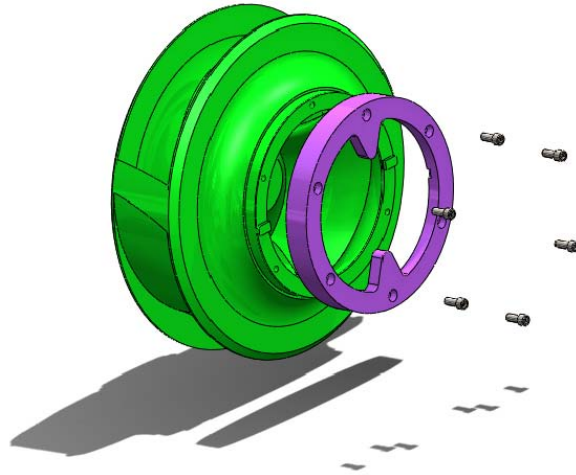
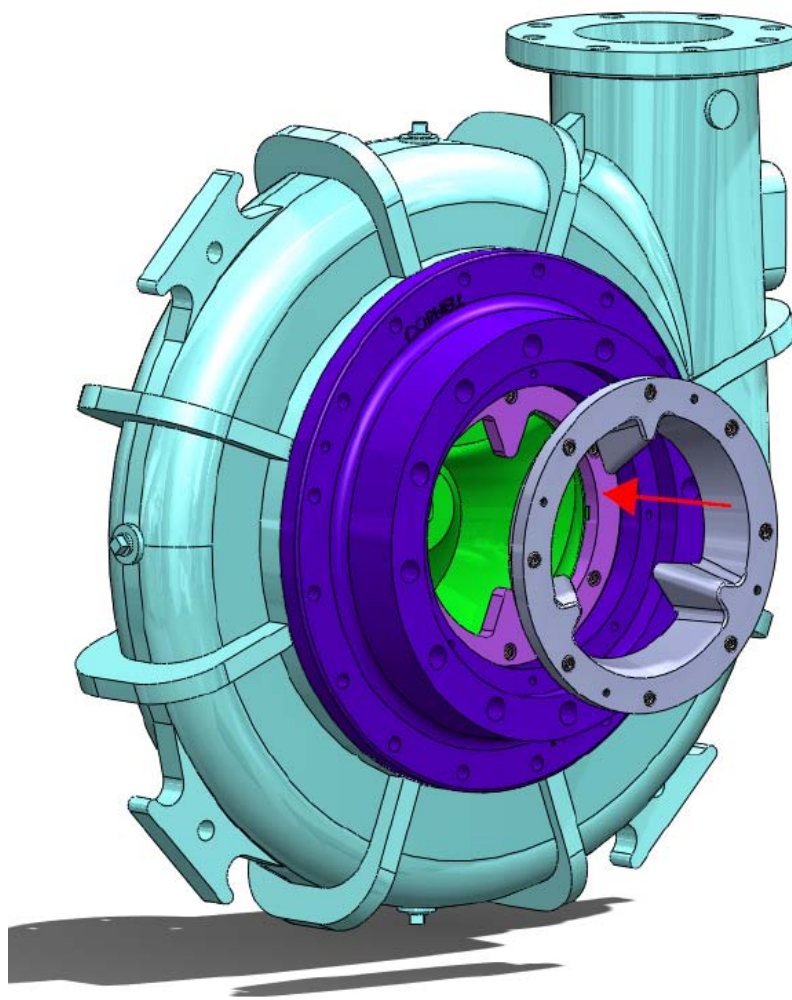
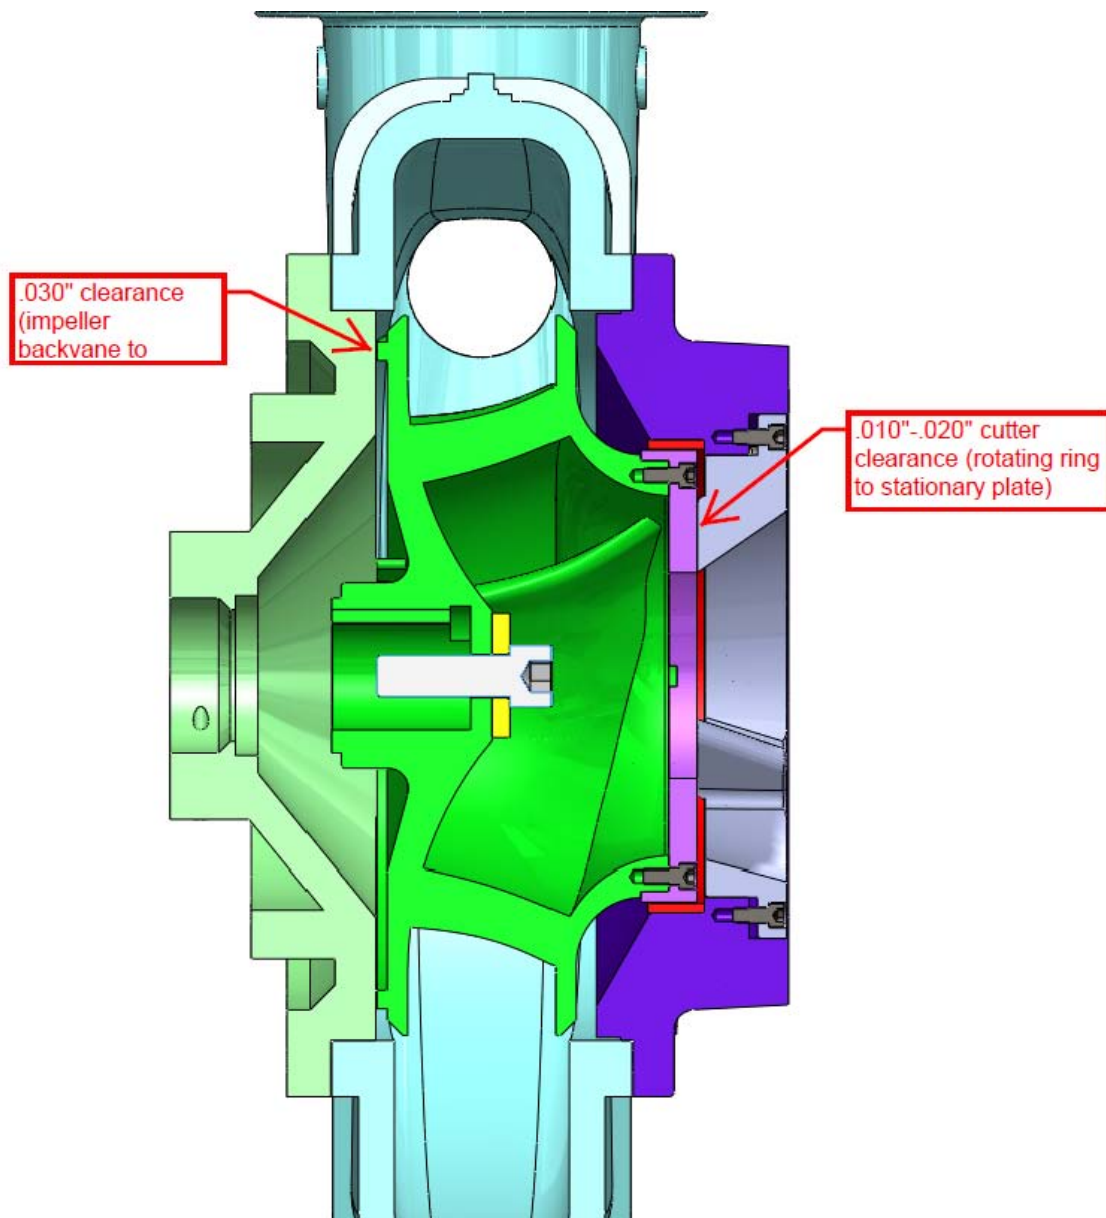

Figure 5. Register and Bolt Rotating Cutter Ring to Impeller
Figure 7. Registering Stationary Cutter Plate to Pump Assembly
Figure 8. Backvane and Cutter Clearances
Register Rotating Cutter Ring on Impeller *Figure 5*. Use keyways as a guide. Bolt together using cap screws as shown in *Figure 5*. Double-check backvane clearances on assembly. (Backvane to backplate clearance should be approximately .030" *Figure 8*)
Register stationary cutter plate (392B) to volute casing (2) and suction cover (1) (if applicable) till the stationary cutter plate bottoms out on rotating cutter ring (392A) *Figure 7*. Evenly adjust set screws to a .010" to .020" clearance (Each 1/4 turn of set screw is approximately .010" of adjustment) *Figure 8*. Initially start with a quarter turn of each set screw and then check clearances. Loosely tighten stationary cutter plate to volute and/or suction cover with cap screws. Evenly torque cap screws to recommended 20ft-lb. Re-check cutter clearance and adjust set screws and cap screws as necessary to achieve clearances. Check for rubbing of assembly by rotating the pump. Re-do clearances if rubbing occurs. The set clearances may need to be increased if this occurs.